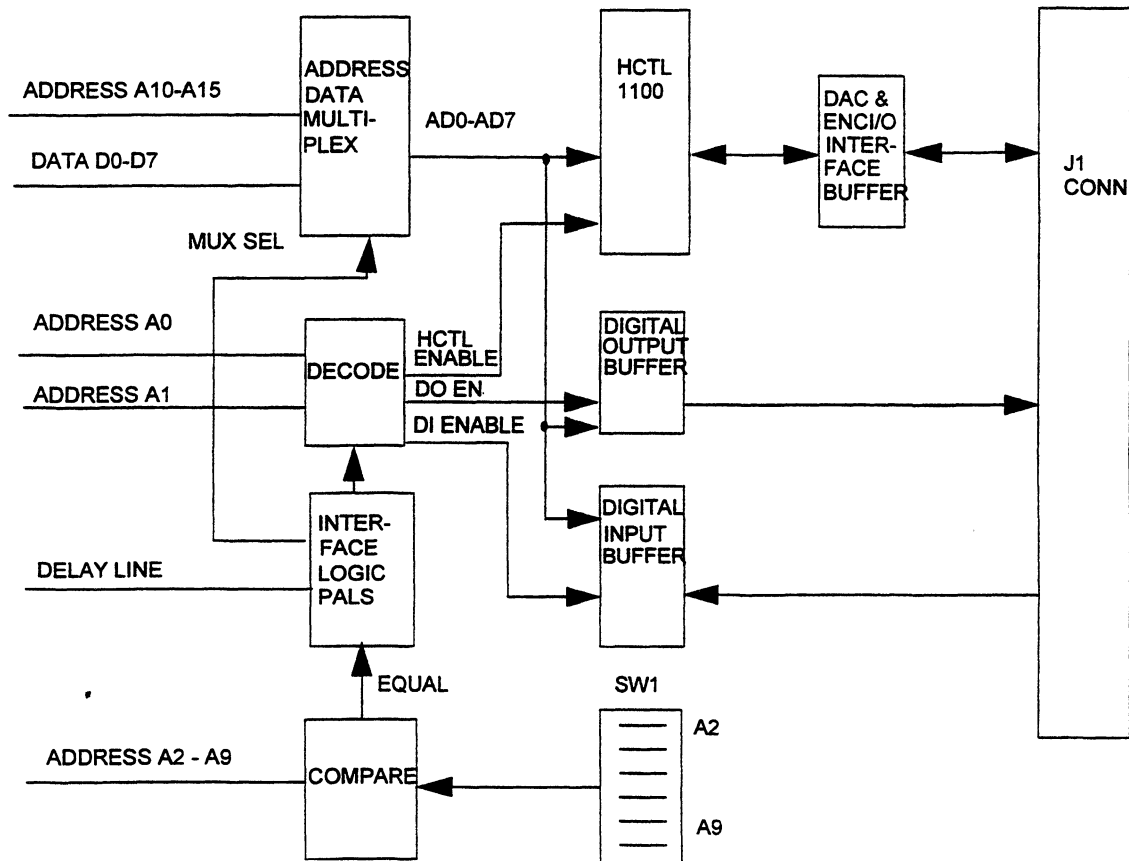

Figure 10
memory addressing, and is based on the fact that the PC was designed to use only address lines A0 through A9 for I/O port addressing. This means that A10 through A15 are not used for decoding, although they are electrically present and available. The MC-3000's high memory addressing technique requires that the MC-3000's base address be asserted to provide an enable for access (read or write) to the HCTL-1100. It also requires that A10 through A15 be driven with the address of the specific register in the HCTL-1100 to be accessed, with A10 having the value of A0 (0), etc. up to A15 with value A5 (32). This approach is shown graphically in Figure 10.